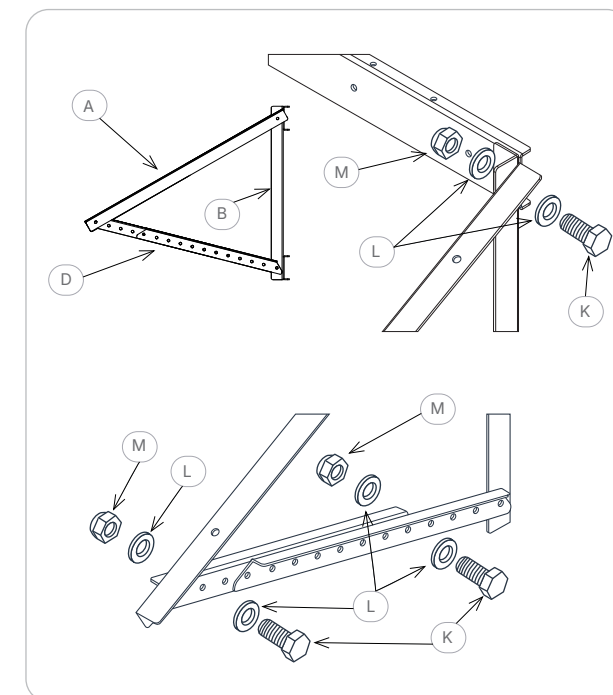

Figure 5. Installation of Carrier and Tilt Bracket.
Assemble the **Carrier Bracket (A)** and **Tilt Brackets (D)** as shown in **Figure 5** using **(K)**, **(L)**, and **(M)**: